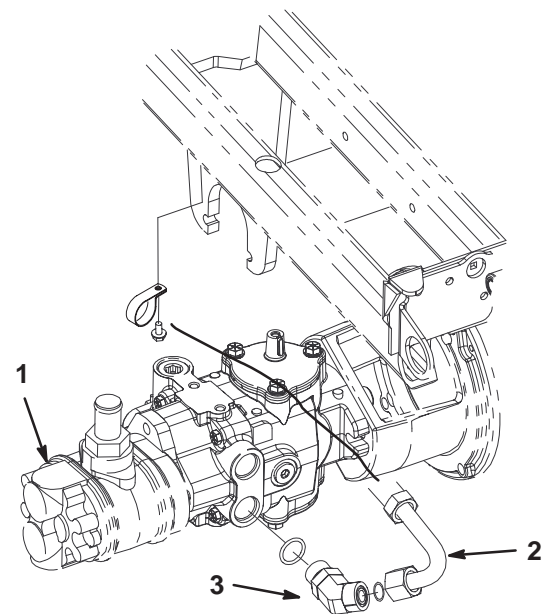

Figure 7
11. Insert R-clamp onto pump hose assembly. Secure R-clamp to frame tube with a hex-head thread-forming screw (Fig. 7)